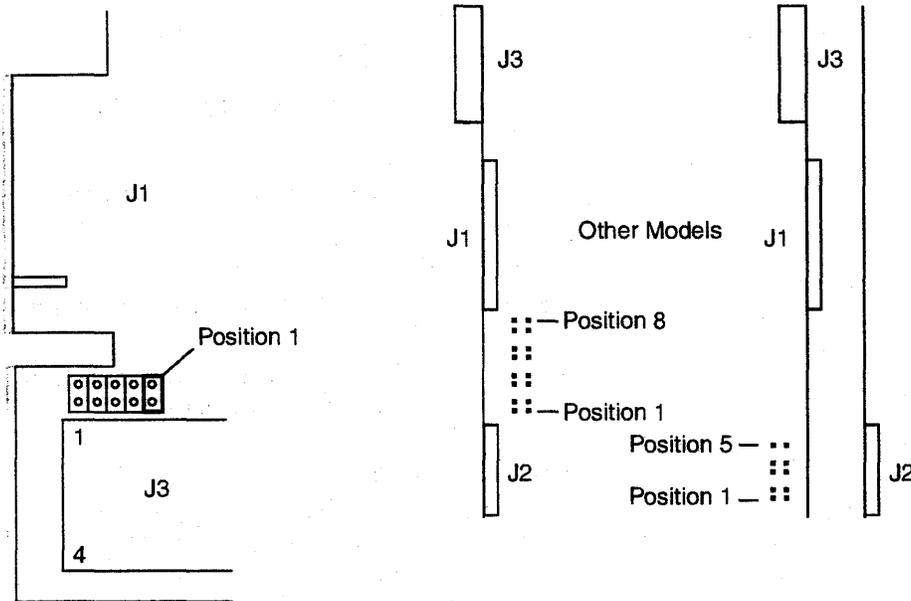

Figure 4-45. HDD Jumpering
7. Ensure that there is a jumper in position 1 (according to the disk model). See Figure 4-45.